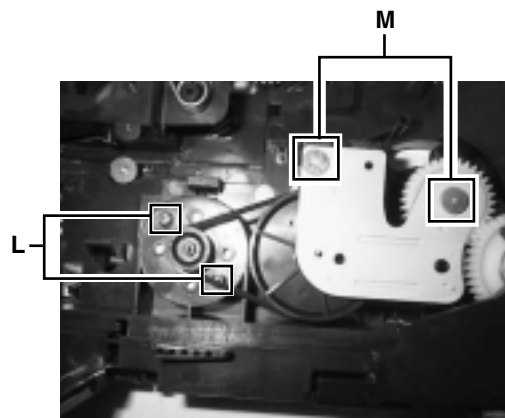

Fig.17
■ **Replacing the loading motor and rotor belt of the CD changer (See Fig .17)**